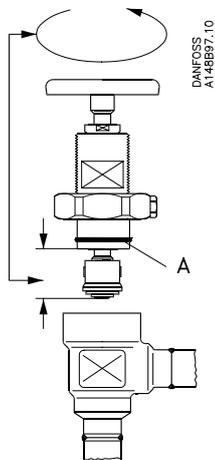

Fig. 12
- Check that the O-ring (Fig. 12, pos. A) has not been damaged.